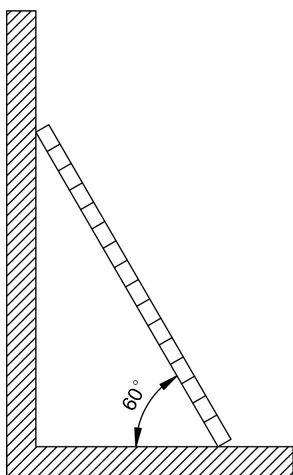

Figure 2-1 Slant Angle of the Ladder
- ◆ The ladder should be placed on a stable ground. The suitable slant angle of the ladder ranges from 60° to 70° as shown in Figure 2-1.